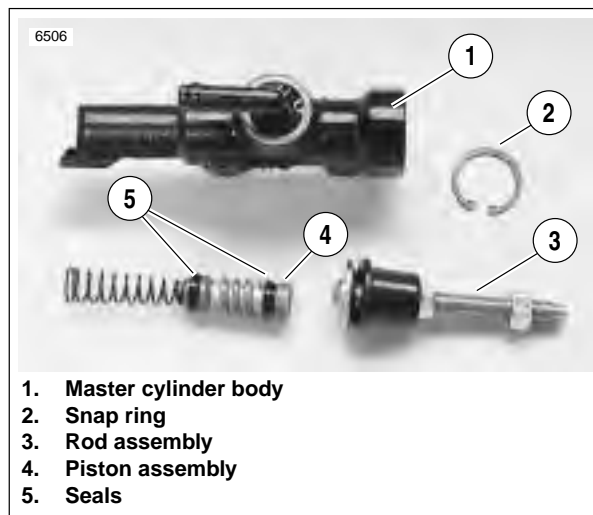

Figure 2-55. Master Cylinder Internal
1. See Figure 2-55. Slide rubber boot on rod assembly (3) away from master cylinder body (1).
2. Depress rod assembly (3) and remove internal snap ring (2). Discard circlip.
3. Remove piston assembly (4) from master cylinder body (1).
4. Loosen adjuster locknut on the rod assembly (3).
5. Remove the clevis from the rod assembly (3).
2. See Figure 2-55. Assemble **new** piston components placing small end of spring behind primary seal of piston (4).
3. Lubricate master cylinder body (1) and piston seals (5) with **D.O.T. 4 BRAKE FLUID**.
4. Place round side of rod assembly (3) over piston. Depress piston (4) into master cylinder body (1) and secure with a **new** snap ring (2).